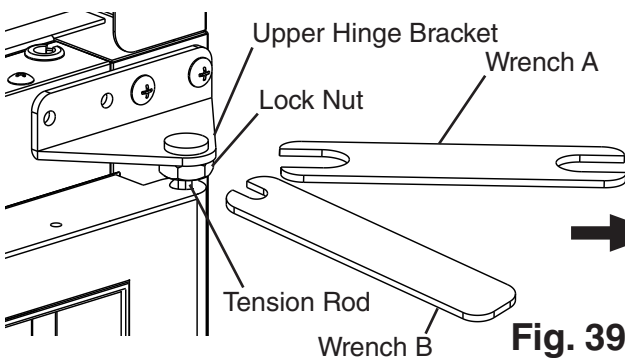

Fig. 39
- 4) Turn wrench B counter-clockwise to relieve tension on the tension rod. Without releasing the pressure on wrench B and the tension rod, use wrench A to tighten the lock nut. See Fig. 39.